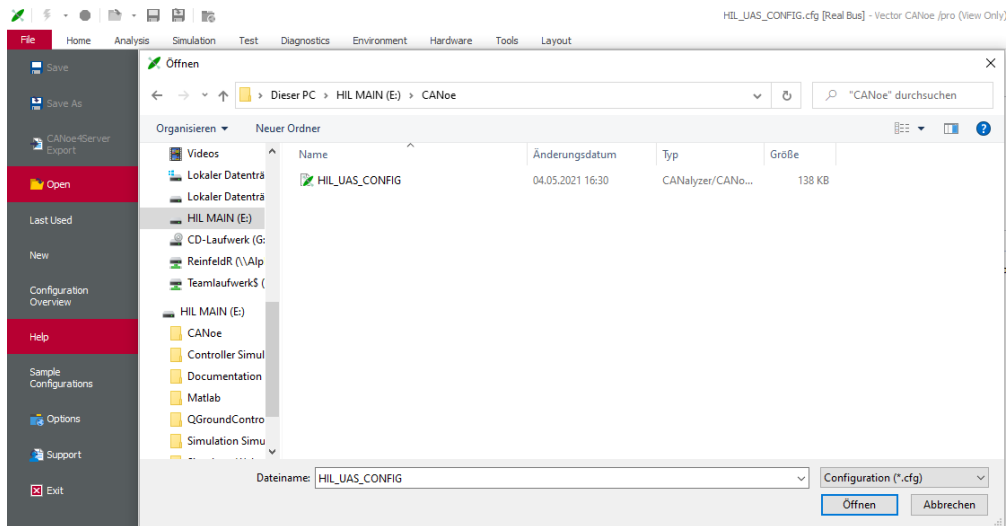
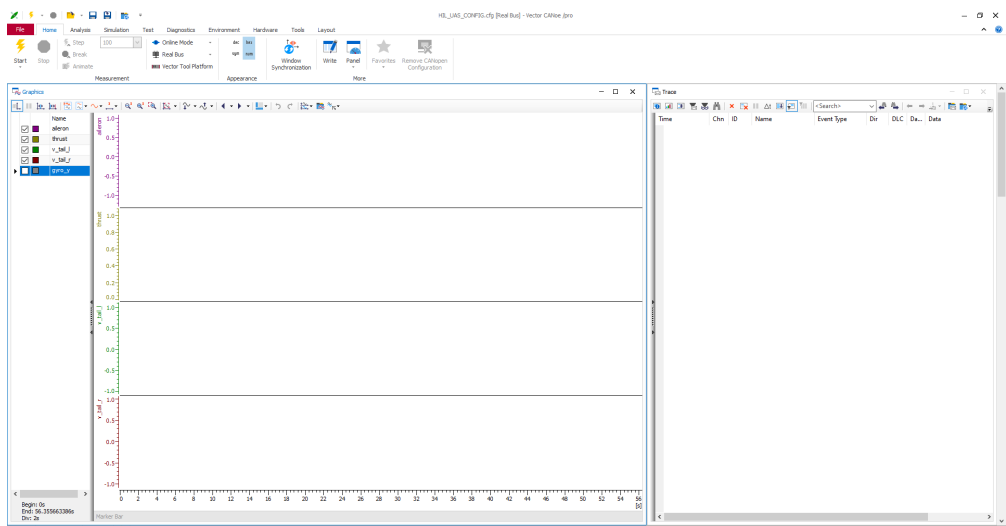

Figure 12: Procedure for Setting Up CANoe Configuration.
Figure 13: Desired CANoe Configuration.
2. The Graphical User Interface of CANoe will be shown. Upon first start, the CANoe Configuration has to be opened using the File tab and then selecting the Open option from the pop up menu. Select the desired configuration file from the CANoe folder (see Fig. 12). Then, the desired interface setup is ready; the fully configured setup for a running simulation is shown in Fig. 13.